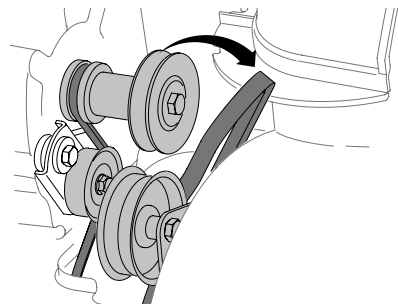

Figure 75
3. Roll auger belt off engine pulley (Figure 75).